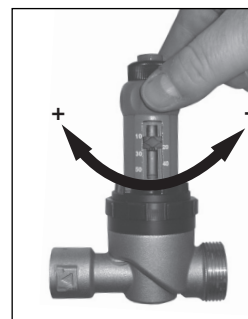

Figure 3
2. Turn the adjustment knob (figure 3) counter clockwise to reduce pressure or clockwise to increase the pressure until the indicator points to the desired pressure setting.